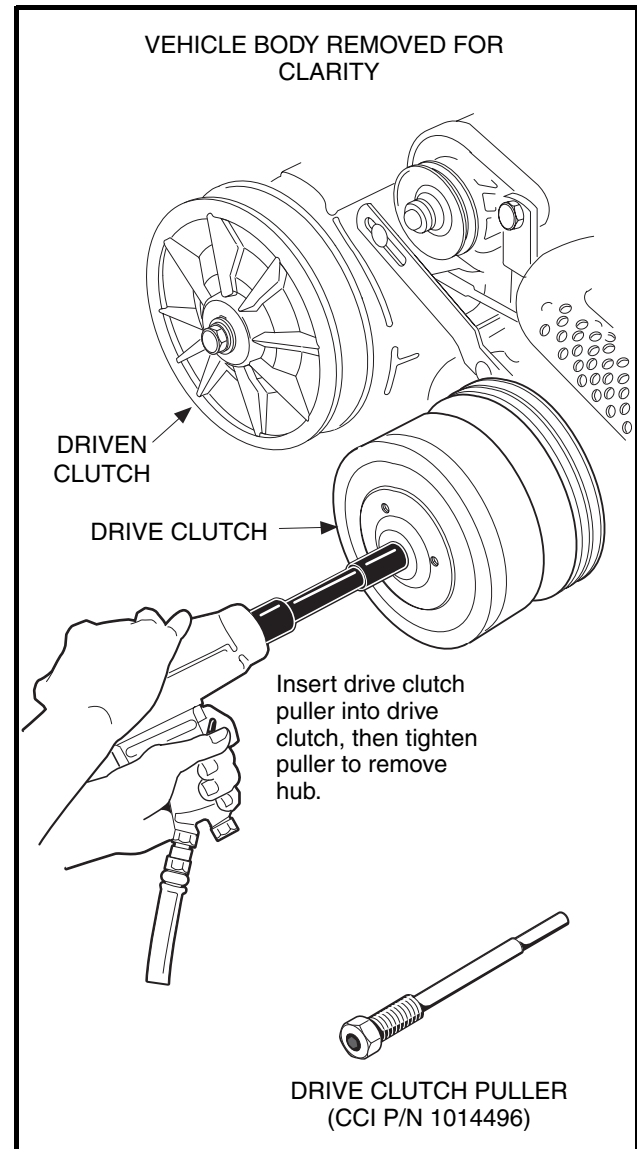

Figure 17-4 Drive Clutch Removal
6. Use a 1/2-inch drive air wrench to tighten the clutch puller tool. The drive clutch will come free of the crankshaft (Figure 17-4, Page 17-4).